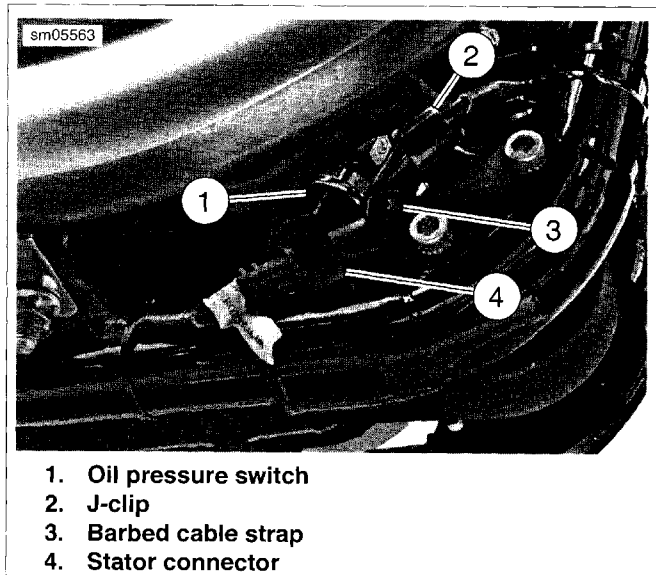

Figure 6-5. Oil Pressure Switch (Right Side View XR 1200)
2. See Figure 6-5. Unplug stator connector (4). Carefully pull barbed cable strap (3) from frame.